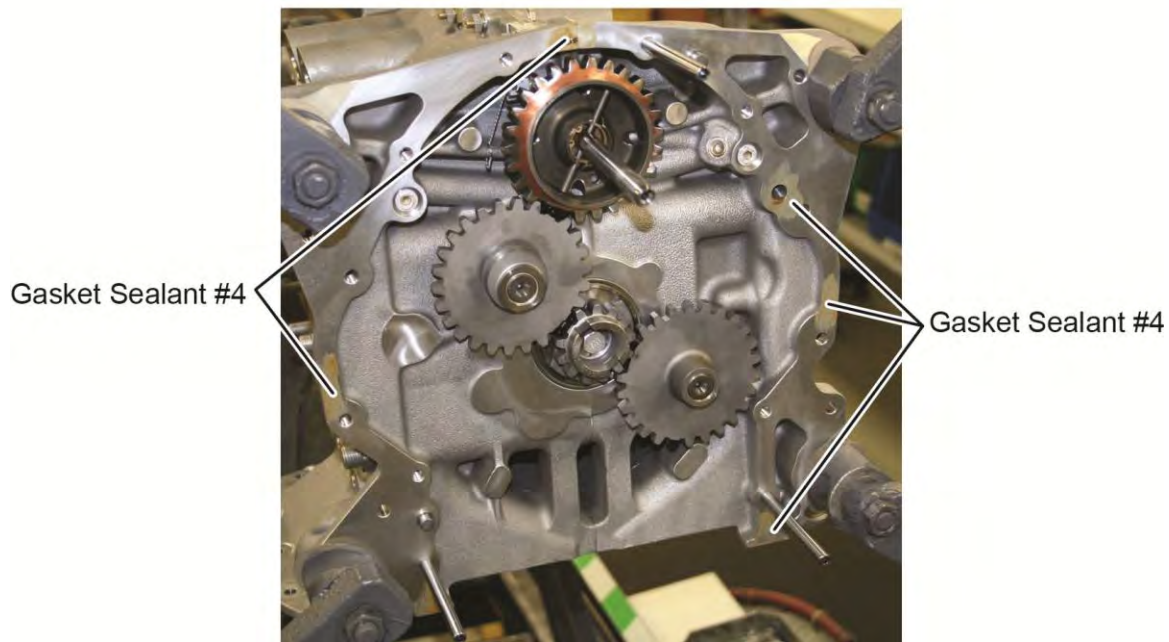

Figure 10
- I. Apply a light coat of Gasket Sealant #4 to the locations shown in Figure 10.